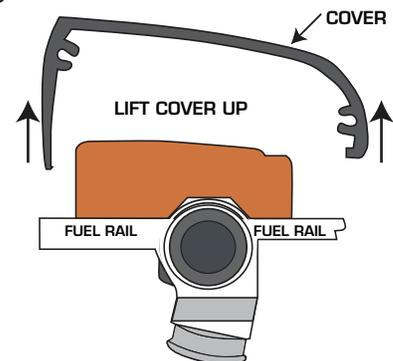

Figure 1 Removing the Fuel Rail Covers.
1. With the battery disconnected and fuel lines removed, follow the procedure in Figure 1 to remove the Atomic fuel rail covers (Figure 1).